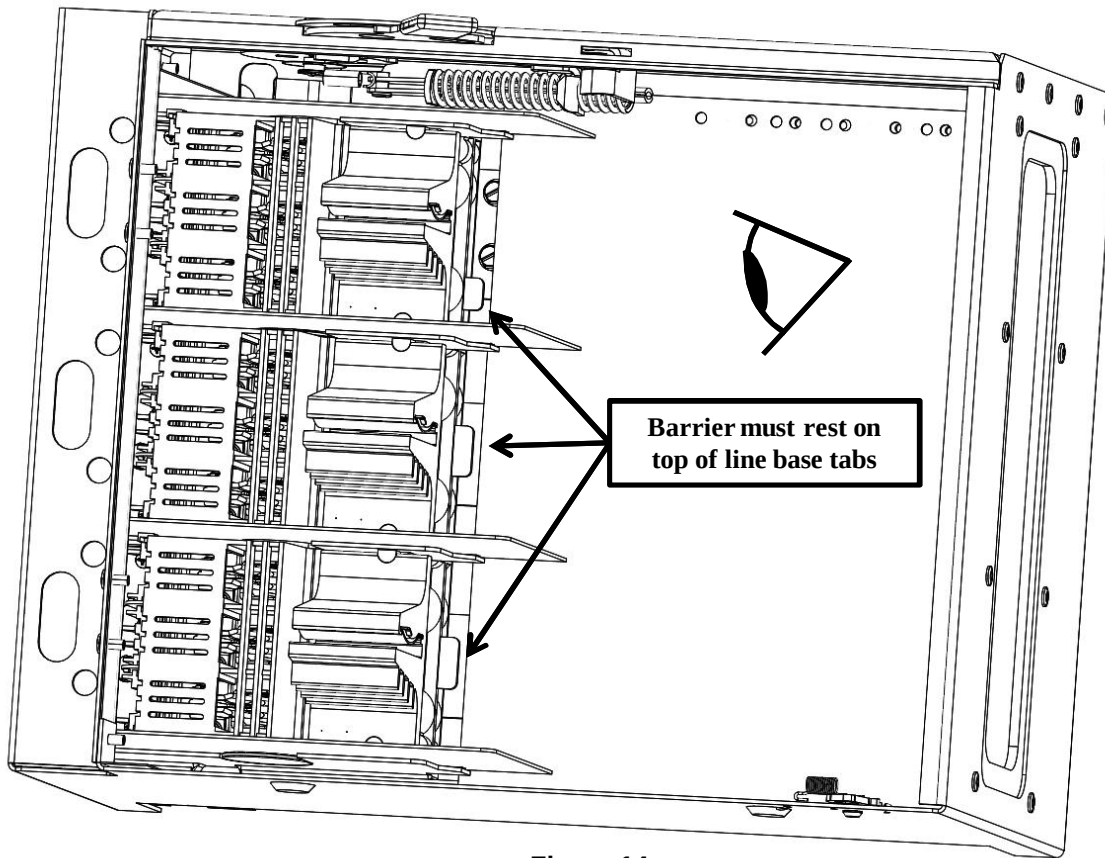

Figure 14
14. Reinstall bottom barrier, ensure barrier rests on top of line base tabs as shown in fig. 14.